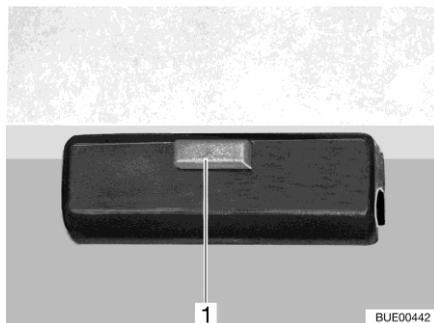

Fig. 123 Lock
- Release the lock (Fig. 123,1) on the table top.